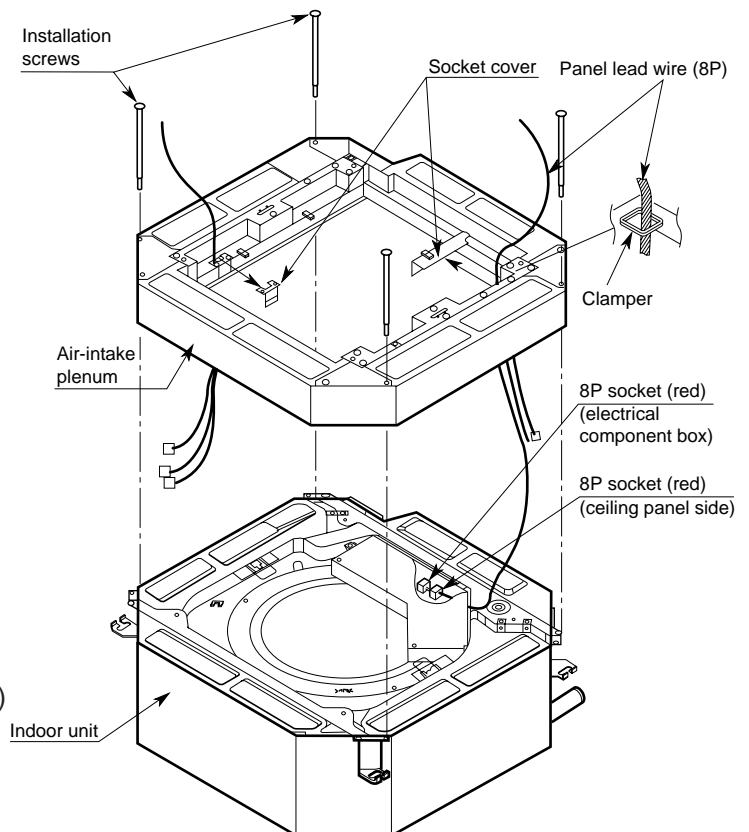

Fig. 2-17
- Set the air-intake plenum to the indoor unit taking care not to set the incorrect direction. (Fig. 2-17)
- Fasten the air-intake plenum with the accessory screws. (M5 × L125, 4pcs) (Fig. 2-17)
- Remove the socket cover of the air-intake plenum and pass the 8P sockets through it. (Fix the panel lead wire to chamber side clumper.) (Fig. 2-17)